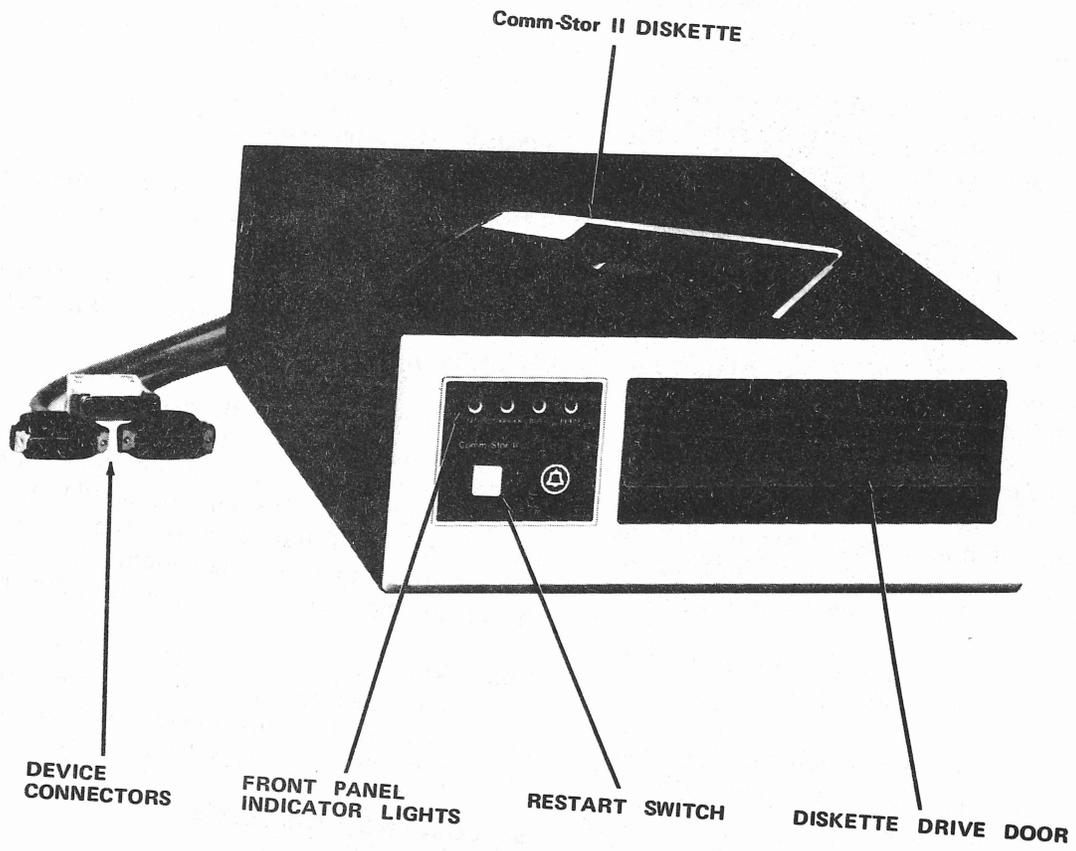

Fig. 3 - Front View of the Comm-Stor II Unit
5.01 The front panel of the Comm-Stor II unit has several indicators to assist the operator. Two of the indicators, READY and BUSY, are duplicated in a dual drive unit to provide information about each drive. When the unit is turned on, all lamps are illuminated for a short time to allow the operator to perform a visual lamp test. The function of each indicator is described below (Figure 3).
6.09 The drive doors (Figure 3) of all Comm-Stor II units are equipped with an interlock which prevents them from closing unless a diskette is fully inserted.